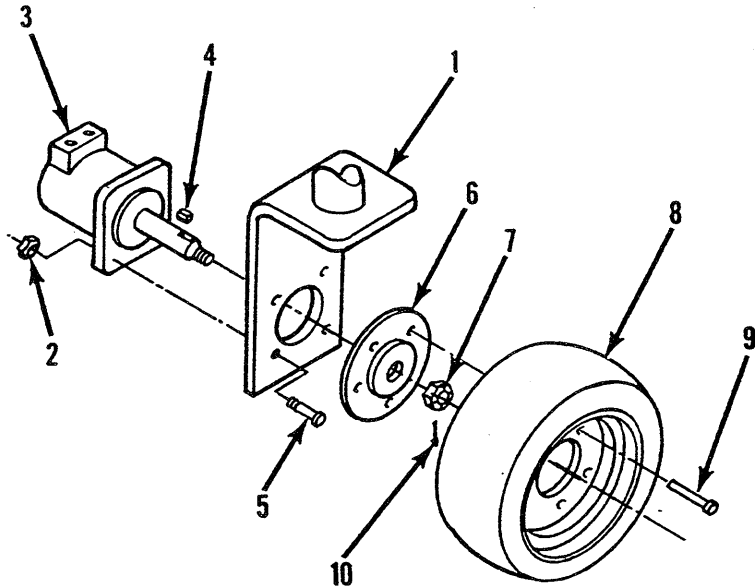

Figure 5-10. Drive Motor Removal
##### a. Removal (Figure 5-10).
(1) Refer to Figure 5-10 and position the drive motor on the yoke and secure with capscrews and locknuts.
(2) Remove the plugs from the hose assemblies and connect to the drive motor.
(3) Install the shaft key, hub and locknut. Torque the locknut to 350 to 400 ft. lb. Install the cotter pin.
(4) Install the wheel with capscrews onto the hub. Torque to 40 ft. lb.
(5) Lower the jack and remove. Operate the drive system and check for leaks.